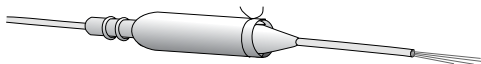

Figure 22. Suture lead/extension connection.
6. Secure the boot with one nonabsorbable suture around the wide end of the connection (Figure 22).